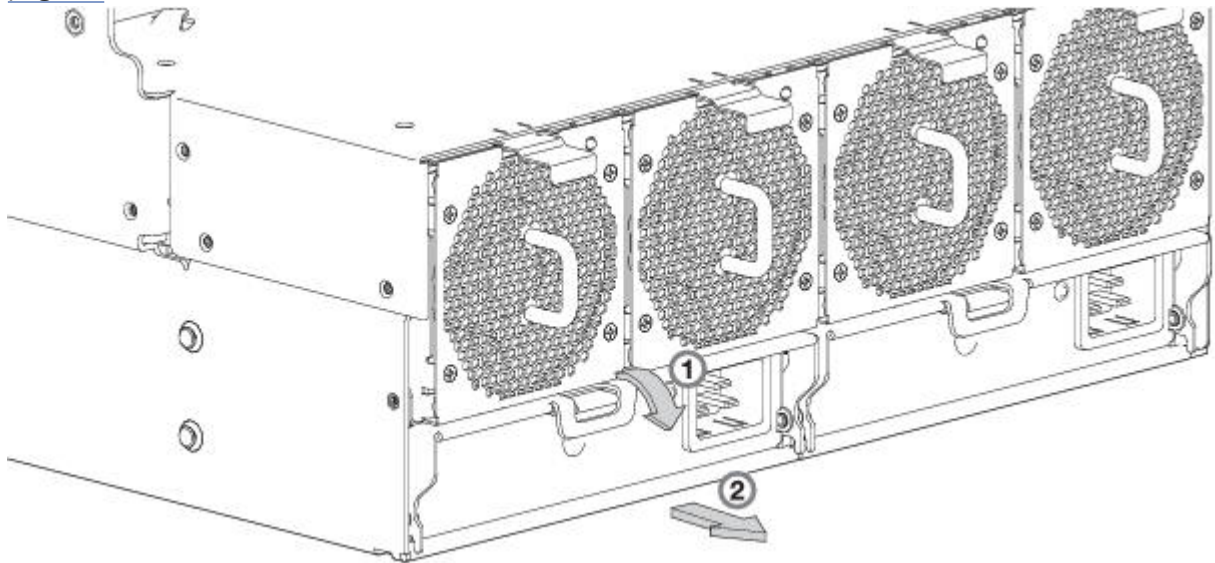
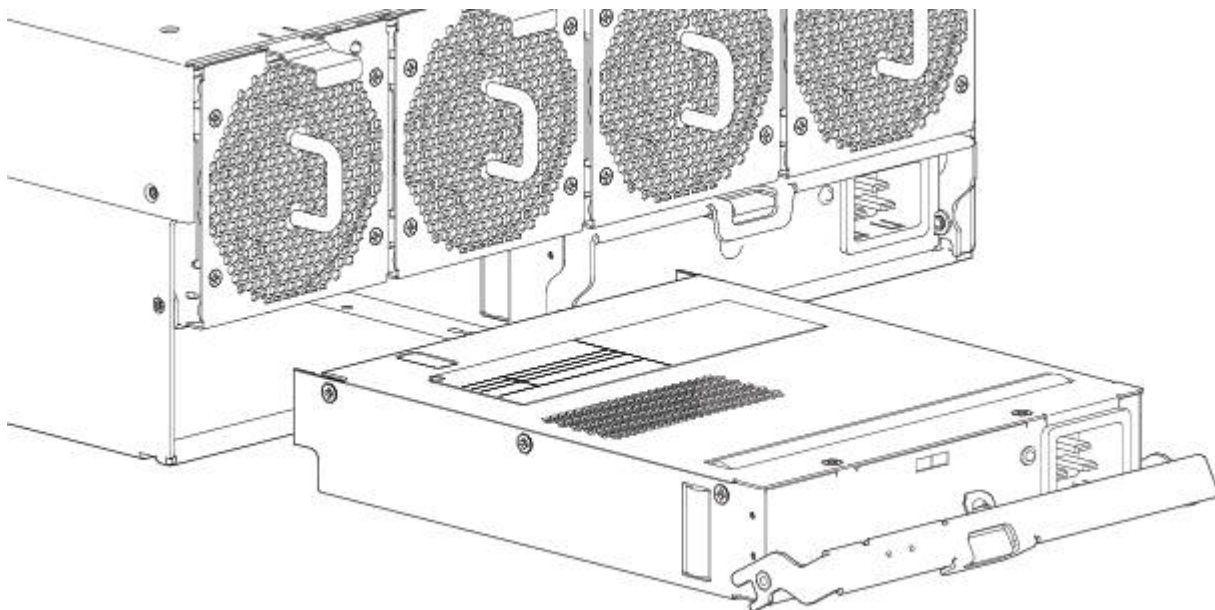

Figure 61. Removing a PSU (1 of 2)
Figure 62. Removing a PSU (2 of 2)
Revolve the handle out and downward to cam the PSU out of the enclosure as shown in Figure 61 on page 69.
8. Grip the handle and withdraw the PSU, taking care to support the base of the module with both hands as you remove it from the enclosure as shown in Figure 62 on page 70.
Refer to Figure 61 on page 69 and Figure 62 on page 70 when performing this procedure, but ignore the directional arrow—since you will insert the module into the slot—rather than remove it.